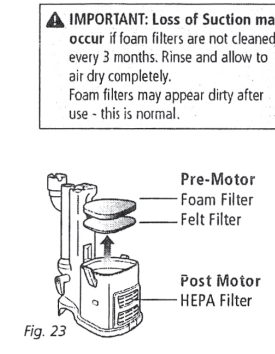

Fig. 23
- Pull the 2 filters out from the top of the motor base. (Fig. 23)